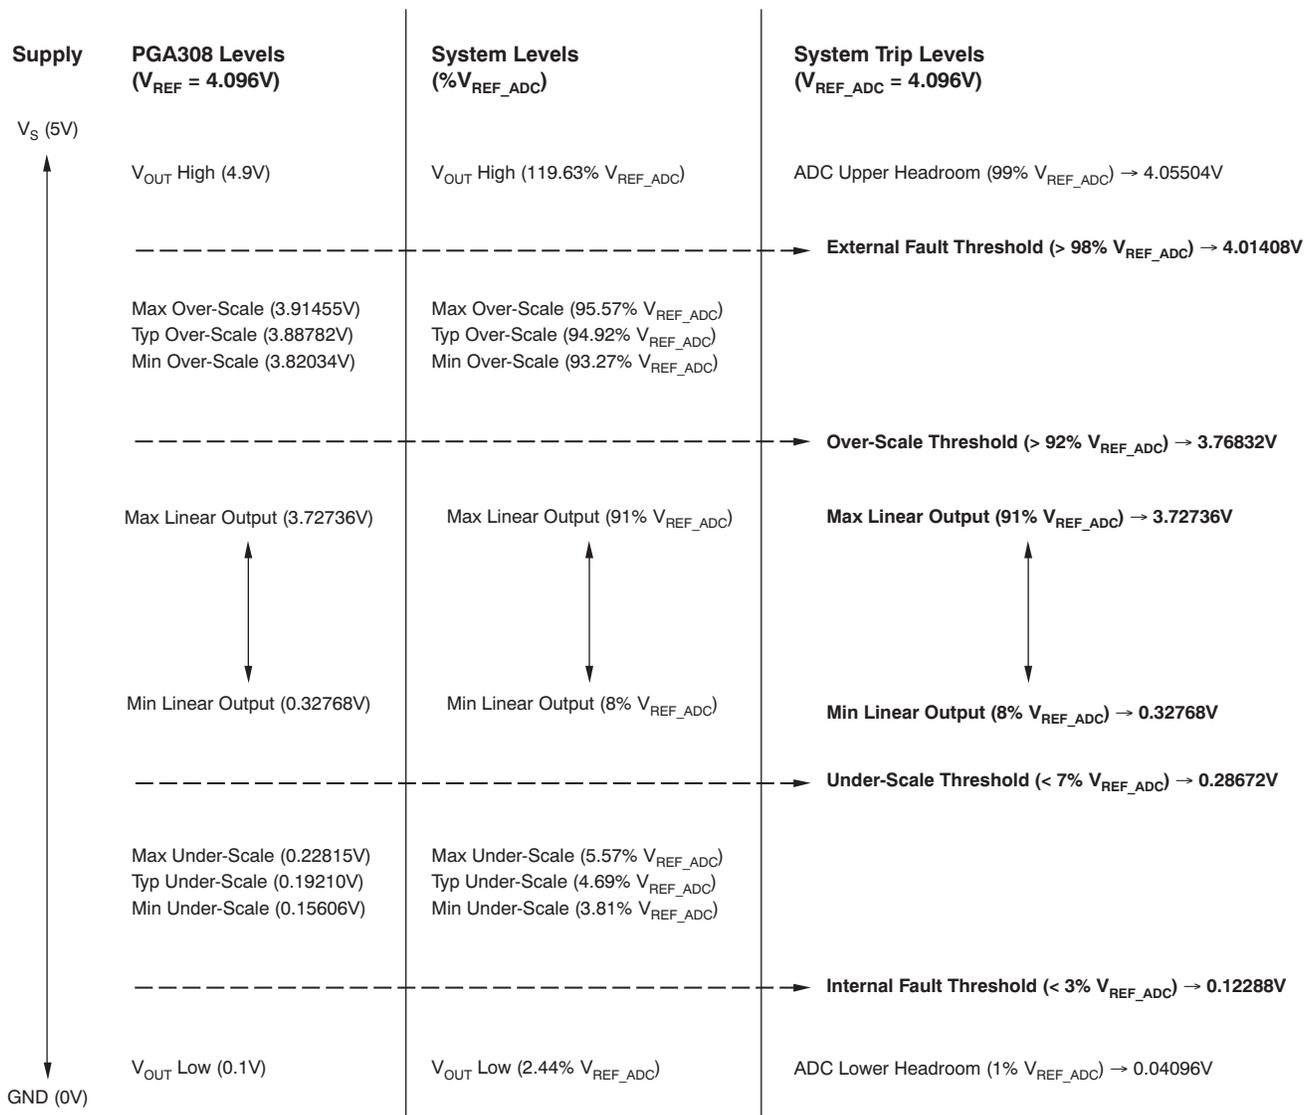

Figure 3-18. System ADC Range Budget: Over-Scale, Under-Scale, Linear Output, Fault Detect
- From the over-scale and under-scale min and max clip point calculations, choose the best selection that will allow for the optimum system ADC range budget (see Figure 3-18). For this example, the PGA308 is scalable for a linear output of 8% to 91% of the system ADC reference. In addition, we can set reasonable trip points for detecting the over-scale limit, under-scale limit, and both internal and external faults.